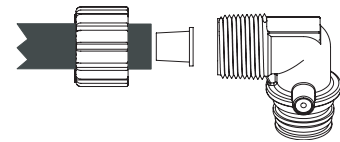

figure 1 Drain Fitting
8. Connect the drain on the filter system to an approved air gap drain. When using the 5/8" poly tubing for the drain line, connect the nut to the line as illustrated in figure 1. If copper line is used, be sure to pre-sweat and cool pipe & fittings before attaching to the drain fitting on the valve.